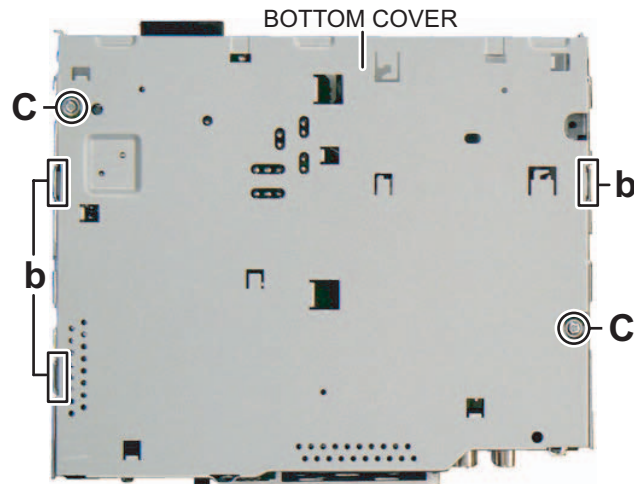

Fig.3
- (2) Remove the 2 screws **C**. (See Fig.3)
(3) Disengage the 3 hooks **b**, and remove the Bottom cover.
(See Fig.3)